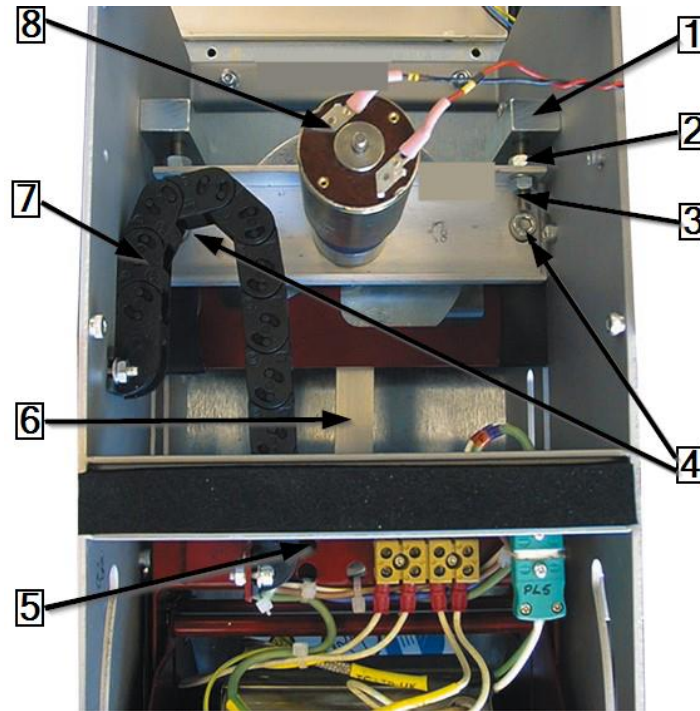

Fig. 85 : Motor module (view from front)
- ➔ For the following description, see Fig. 85 : Motor module (view from front), page 112. Loosen the M6x40 securing nuts (2) on the adjustment screws in the motor mounting blocks (3) and remove the adjustment screws.
- ➔ Loosen the 2 fixing screws (4) which fastens the base of the motor module.
- ➔ Remove the rear pivot of the motor crank disc (1) (see below) from the crank disc.